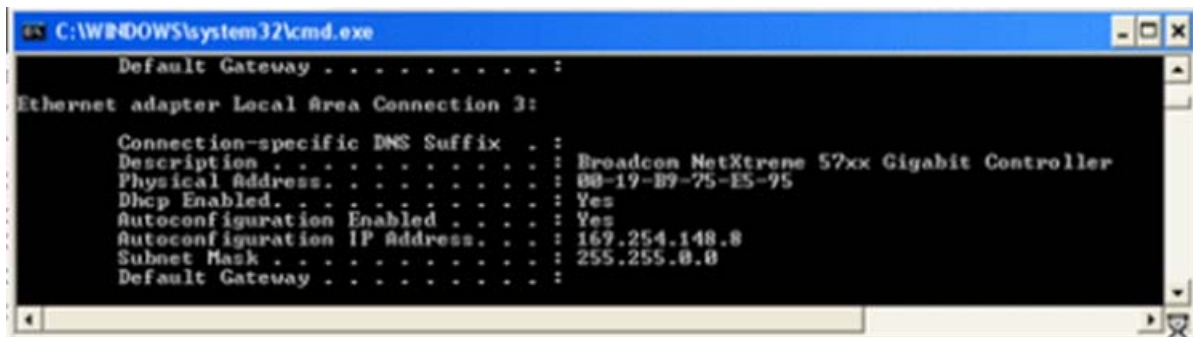

Figure 8-5: **ipconfig -all** in **cmd.exe**
- b. In the command window, type **ipconfig -all** to list all Ethernet ports and connections. Figure 8-5 shows the command in the **cmd** window.